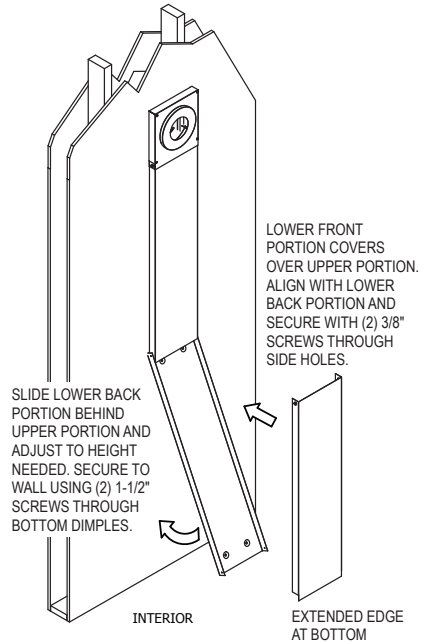

Figure 7
Next, install the Lower Back portion by sliding it behind the Upper Back portion (**Fig 7**). The bottom wall portion will fit on the outside of the Upper Front portion. Adjust its position to the desired length of your installation. Remember to account for the height of the Channel Tee (installed in Step 5) when determining the correct length for your installation. Secure the bottom wall portion against the wall with (2) 1-1/2" wood screws through the bottom two dimples.
Finally, install the Lower Front portion over the Lower Back and Upper Front portions (**Fig 7**). The notched end of the Lower Front portion must face downward, and the holes on the sides of the Lower Front portion will be at the top. Secure the Lower Front portion with (2) 3/8" black screws in the two side holes. Pre-drill the holes in the other portions, where needed.